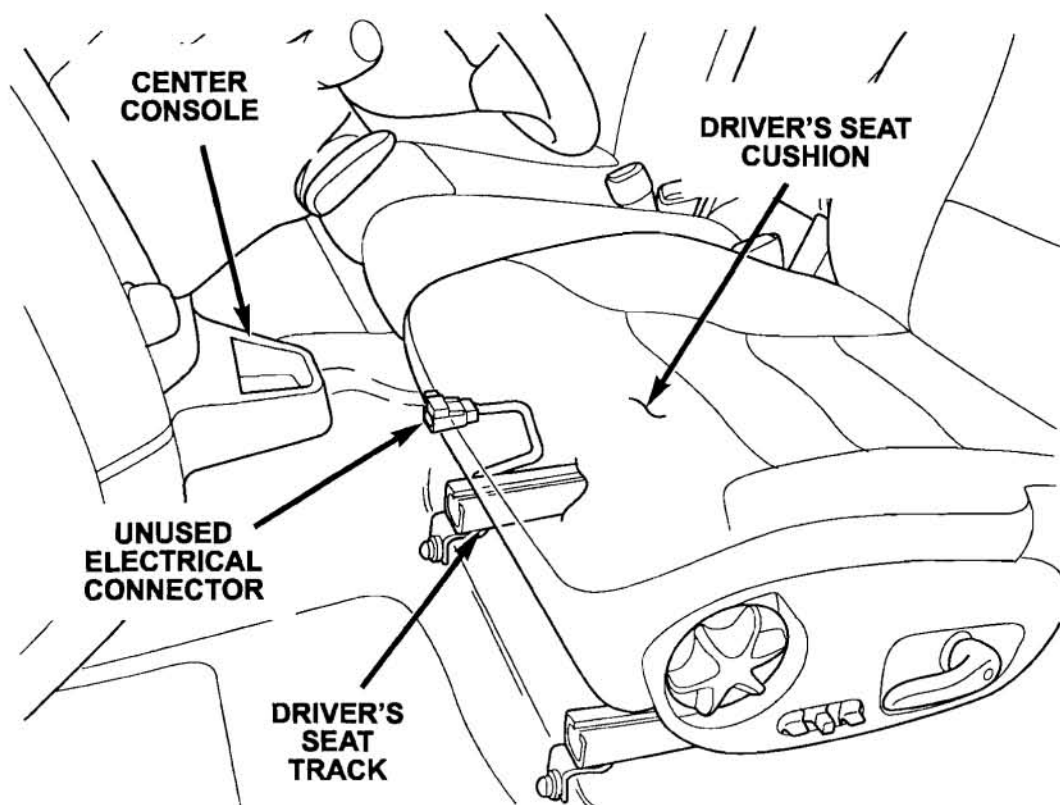

Figure 1
2. Locate the unused electrical connector under the driver's seat near the transmission tunnel (Figure 1).